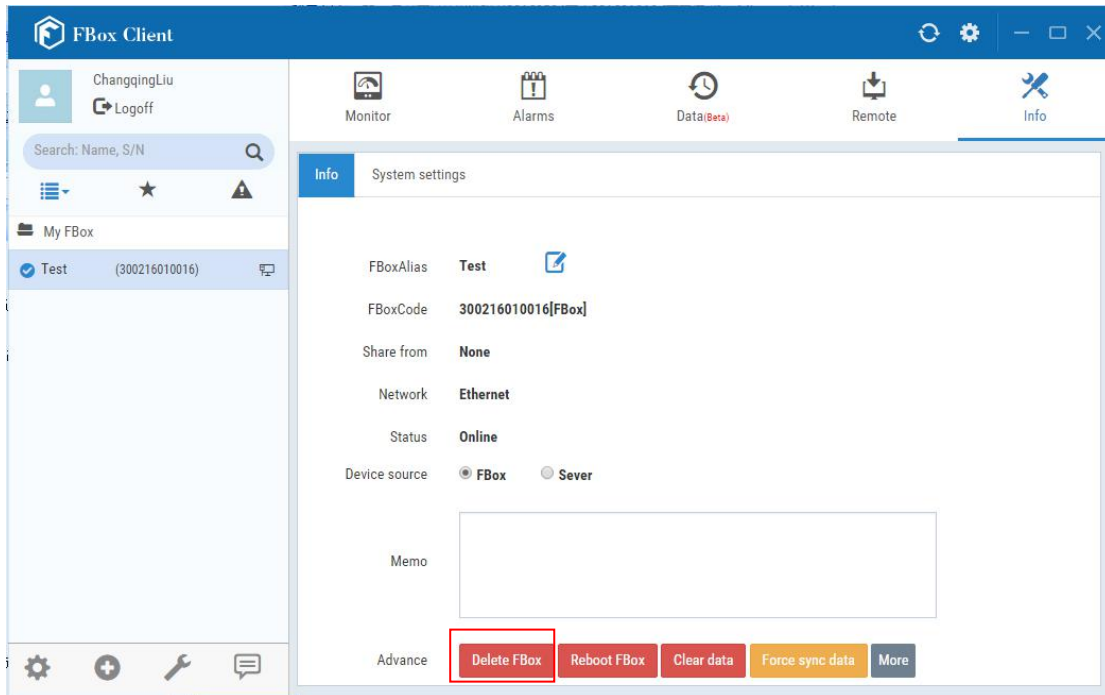

Fig. 4.3-9 Delete an existing FBox
(1) Select the FBox to be deleted in the FBox device list area. And click the "Delete FBox" button on the "Info" subtab page after click the “Info” option in the major function area, as shown in Fig. 4.3-9.